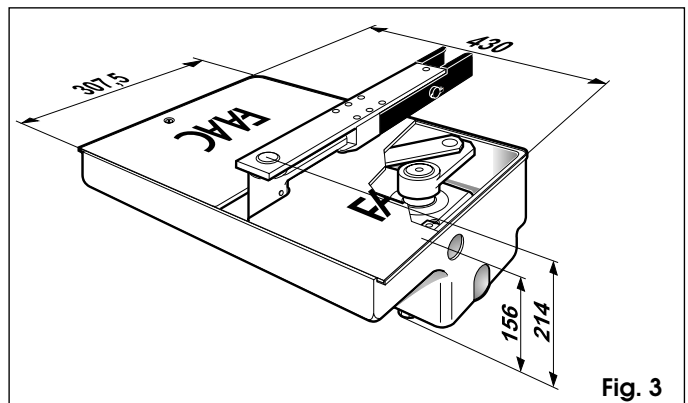

Fig. 3
3.2 INSTALLATION OF LEAF SUPPORTING FOUNDATION BOX (Fig. 3)